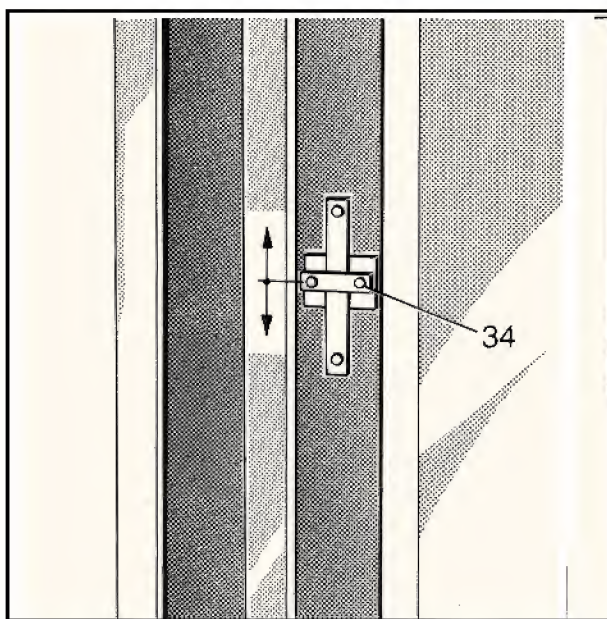

Fig. 24
FFD: Adjust cam (Fig. 24/item 34) on column after loosening screws. Range of adjustment approx. 85 mm.